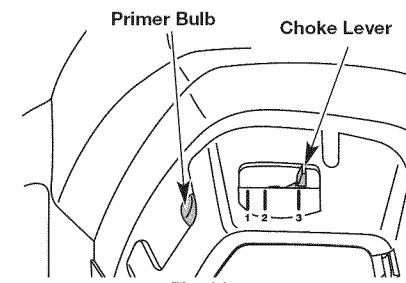
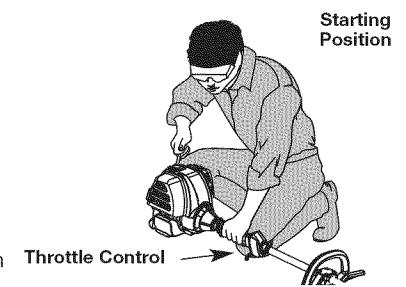

Fig. 11
Fig. 12
**WARNING:** Avoid accidental starting. Make sure to be in the starting position when pulling the starter rope (Fig. 12). To avoid serious injury, the operator and unit must be in a stable position while starting.
3. Fully press and release the primer bulb 10 times, slowly. Some amount of fuel should be visible in the primer bulb and fuel lines (Fig. 11). If fuel cannot be seen in the primer bulb, press and release the bulb until fuel is visible.
4. Place the choke lever in **Position 1** (Fig. 11).
5. Crouch in the starting position (Fig. 12). Press the throttle lockout in and fully squeeze the throttle control lever. Pull the starter rope 5 times.
6. Place the choke lever in **Position 2** (Fig. 11).
9. Continue squeezing the throttle control, move the choke lever to **Position 3** (Fig. 11) and continue warming the engine for an additional 60 seconds. The unit may be used during this time.
- IF...** the engine hesitates, return the choke lever to **Position 2** (Fig. 11) and continue warm-up.
5. Crouch in the starting position (Fig. 12). Place the electric starter or power start bit into the back of the unit. Refer to the *Operation section of the Electric Starter or Power Start Bit™* operator's manual.
6. Press the throttle lockout in and fully squeeze the throttle control lever. Press and hold the electric starter or drill ON (I) button for 2 seconds.
7. Place the choke lever in **Position 2** (Fig. 11).
8. While pressing the throttle lockout in and squeezing the throttle control, press and hold the electric starter or drill ON (I) button for 2 second intervals until unit starts.
10. Continue squeezing the throttle control, move the choke lever to **Position 3** (Fig. 11) and run the unit for an additional 60 seconds. The unit may be used during this time.
**IF...** the engine hesitates, return the choke lever to **Position 2** (Fig. 11) and continue warm-up.
**IF...** the engine fails to start after a few attempts, place the choke lever in **Position 3** and squeeze the throttle control. Press and hold the electric starter or drill ON (I) button for 2-second intervals until the unit starts.